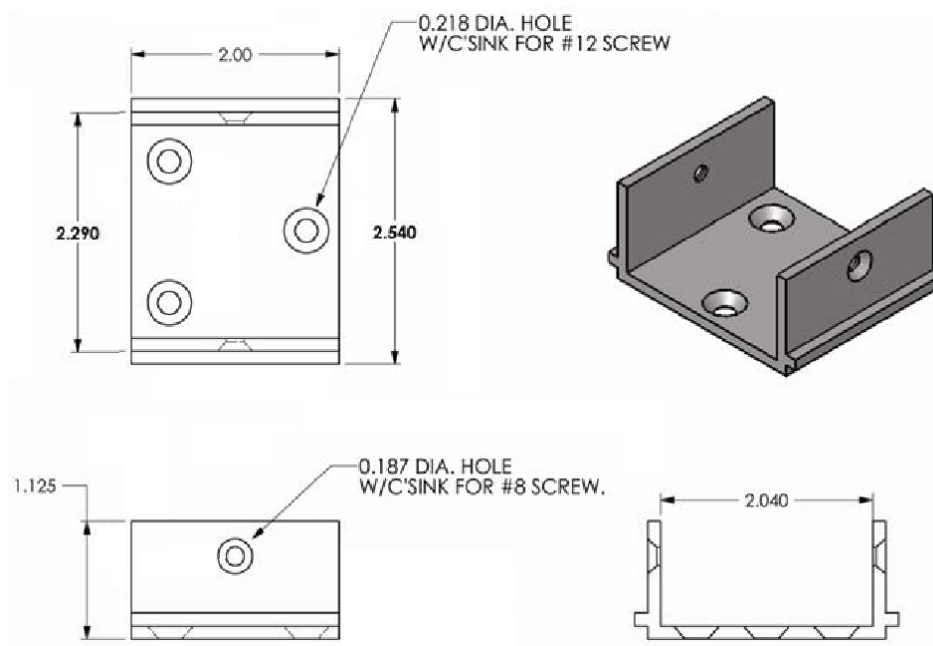

FIGURE 8 – ALUMINUM LEVEL RAIL BRACKET
3.1.11. Top and bottom rails are connected to posts using aluminum brackets secured to the posts with stainless steel wood screws. See Figures 8 and 9.